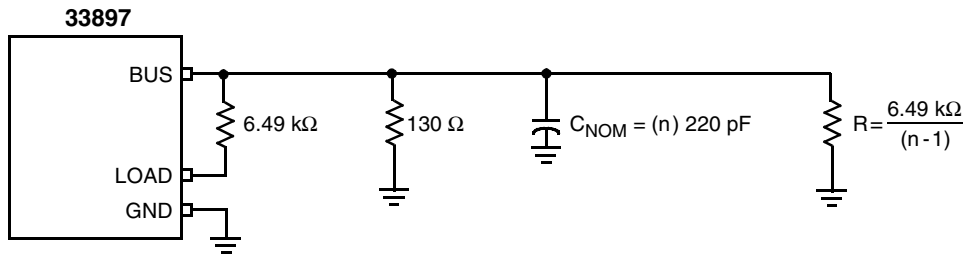

Figure 3. Transmitter Delays in High-Speed Mode
11.  $V_{BUS}$  is the voltage at the BUS pin in Figure 3, page 10.